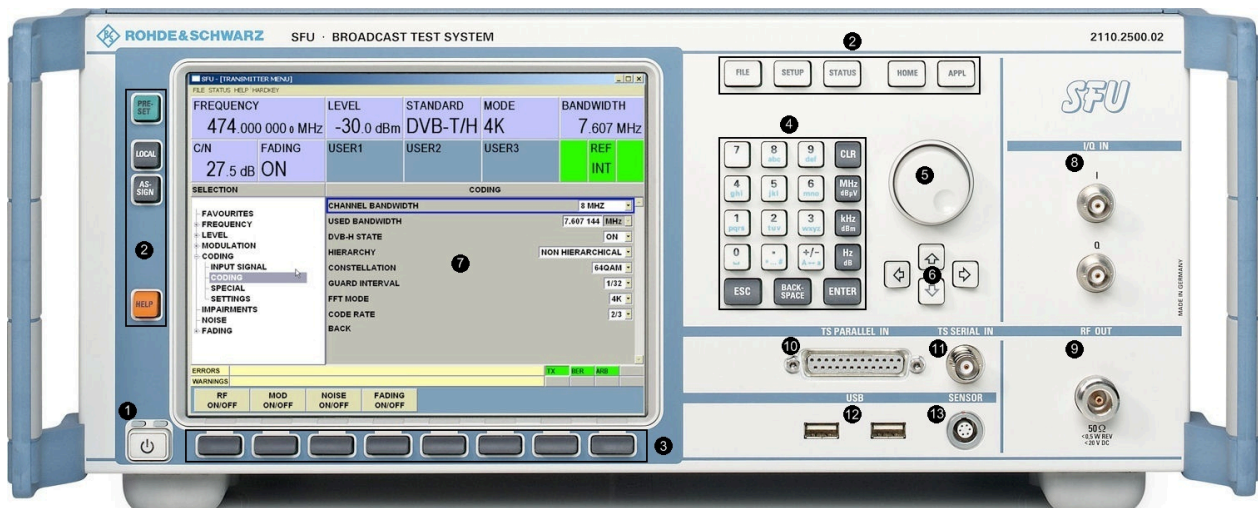

Figure 3-1: Front panel view
See (1) in Figure 3-1.
See (2) in Figure 3-1.
See (3) in Figure 3-1.
See (4) in Figure 3-1.
See (5) in Figure 3-1.
See (6) in Figure 3-1.
See (7) in Figure 3-1.
See (8) in Figure 3-1.
See (9) in Figure 3-1.
See (10) in Figure 3-1.